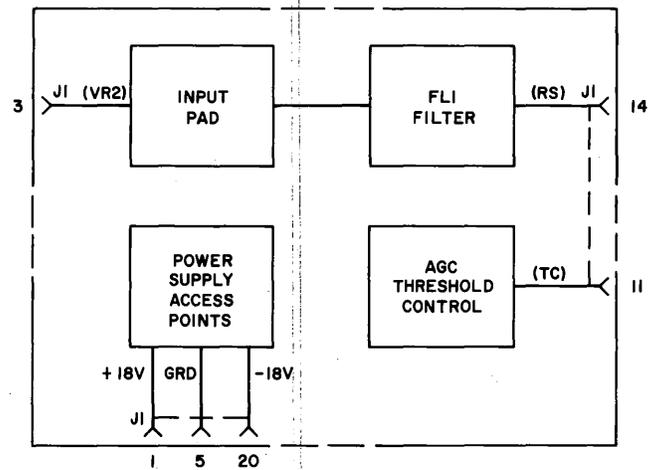

Fig. 7—Typical Roll-Off Filter—Block Diagram
3.35 There are different roll-off filter card codes for different bit rates and band-shaping. Each card consists of an input pad, roll-off filter, power supply access points, and AGC threshold control (Fig. 7).